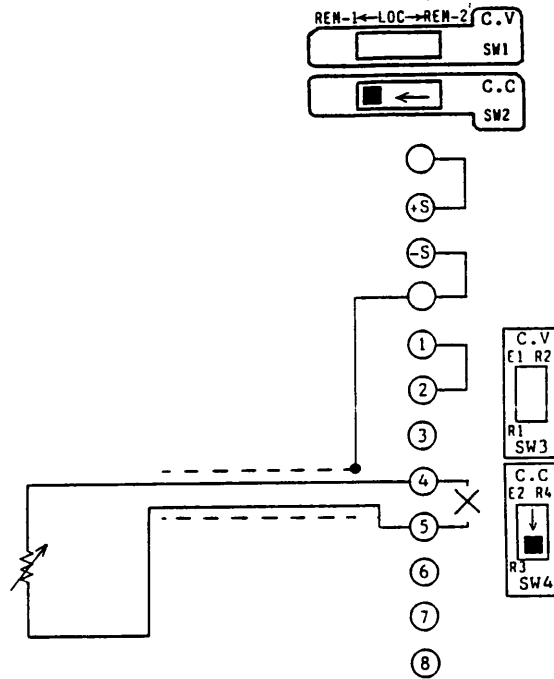

Figure 4-9
- (1) Turn off the POWER switch.
- (2) Throw the SW2 switch of the rear panel to REM-1.
- (3) Throw the SW4 switch of the rear panel to R3.
- (4) Disconnect the jumper from between terminals ④ and ⑤ of the rear terminal block.
- (5) Connect a control resistor (R3) to between terminals ④ and ⑤.
- (6) Connect an ammeter (a shunt resistor) between the OUTPUT terminals.
- (7) Turn on the POWER switch. (Turn on the OUTPUT switch.)
- (8) Adjust offset (at zero amperes) with the A.os control of the service panel. $R3 = 0 [\Omega]$ (See Section 4.8.1, Note 5.)
- (9) Regarding the switches for which no settings are specified in Figure 4-9, set them to the standard states as shown in Figure 2-19 (See Section 2.4.) or to appropriate states for respective modes (See Sections 4.1 through 4.11.).